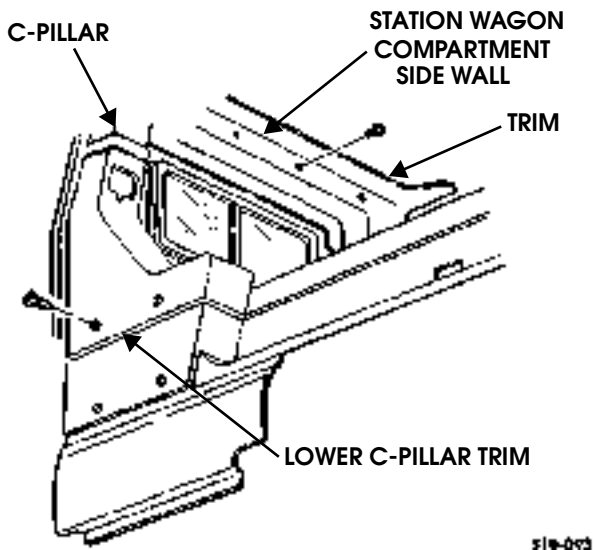

Figure 10-47: C-Pillar Trim Location
6. Remove screw/washer assemblies and trim from station wagon compartment side wall (Figure 10-47).